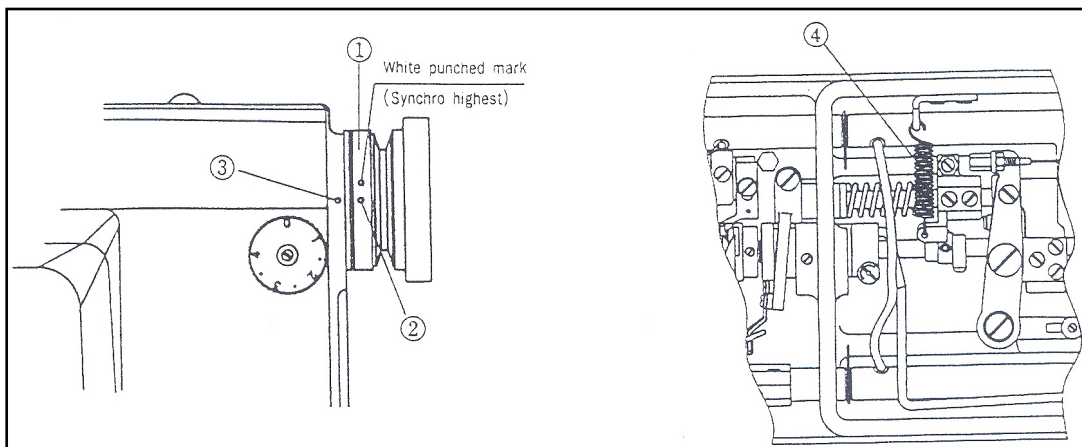

Figure 7.14
- A. Referring to Fig. 7.14 line up mark '2' on hand wheel with punch mark '3' on head.
- B. Remove spring '4' as shown in Fig. 7.14.